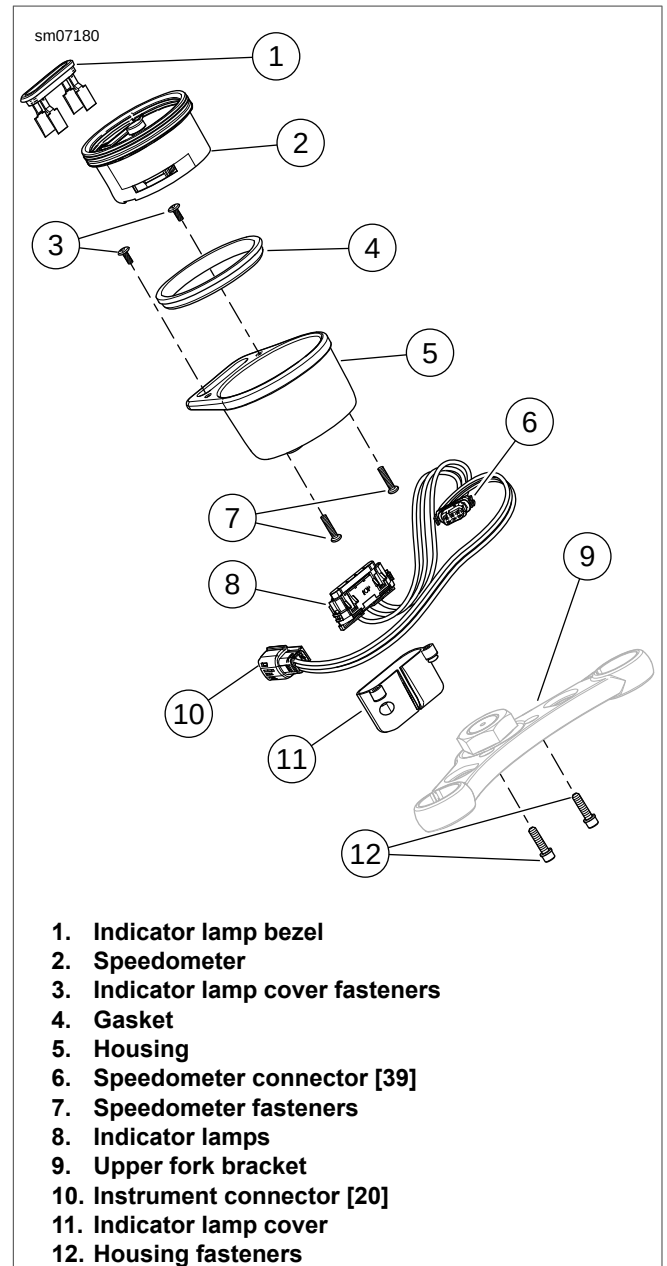

Figure 7-86. Speedometer: FXS
- See Figure 7-86. Remove fasteners (12) securing speedometer housing (5) to upper fork bracket (9).
2. Remove speedometer fasteners (7). Remove speedometer from housing (5).
3. Disconnect speedometer connector [39] (6).
1. See Figure 7-86. Inspect gasket (4). Replace if necessary. Install gasket to speedometer (2).
2. Connect speedometer connector [39] (6).
3. Position speedometer in housing (5).
5. Place housing in position over upper fork bracket (9).
6. Install housing fasteners (12). Tighten fasteners to 72-120 **in-lbs** (8.1-13.6 Nm).